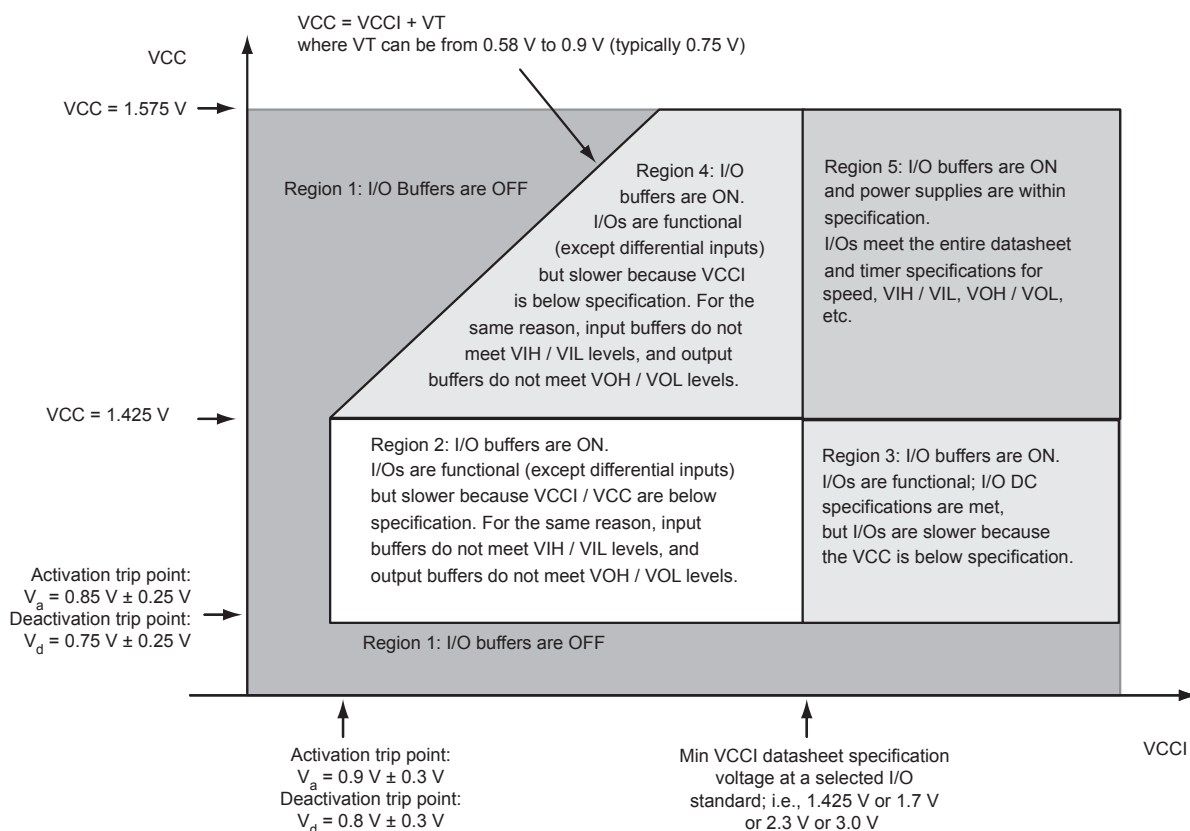
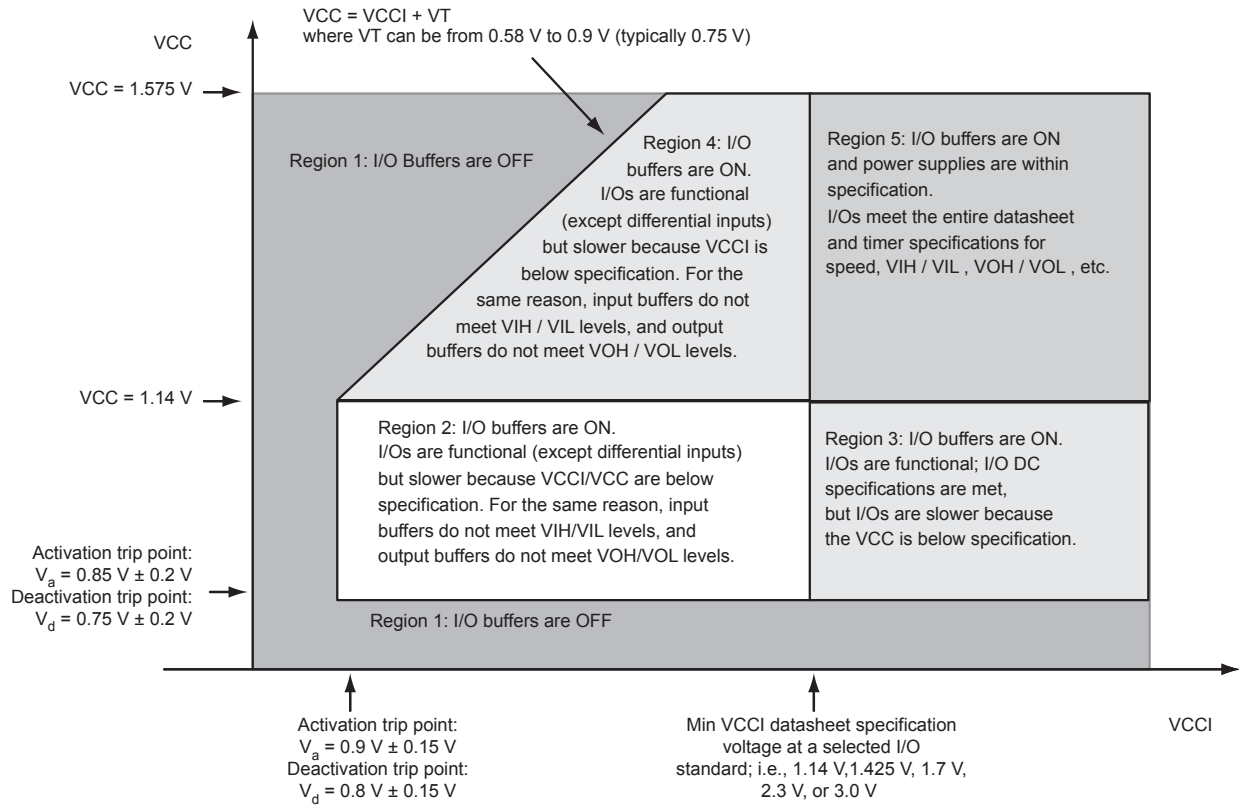

Figure 2-1 • V5 Devices – I/O State as a Function of VCCI and VCC Voltage Levels
Figure 2-2 • V2 Devices – I/O State as a Function of VCCI and VCC Voltage Levels
Sophisticated power-up management circuitry is designed into every IGLOO device. These circuits ensure easy transition from the powered-off state to the powered-up state of the device. The many different supplies can power up in any sequence with minimized current spikes or surges. In addition, the I/O will be in a known state through the power-up sequence. The basic principle is shown in Figure 2-1 on page 2-4 and Figure 2-2 on page 2-5.
1. VCC and VCCI are above the minimum specified trip points (Figure 2-1 on page 2-4 and Figure 2-2 on page 2-5).
Microsemi recommends using monotonic power supplies or voltage regulators to ensure proper power-up behavior. Power ramp-up should be monotonic at least until VCC and VCCPLX exceed brownout activation levels (see Figure 2-1 and Figure 2-2 on page 2-5 for more details).